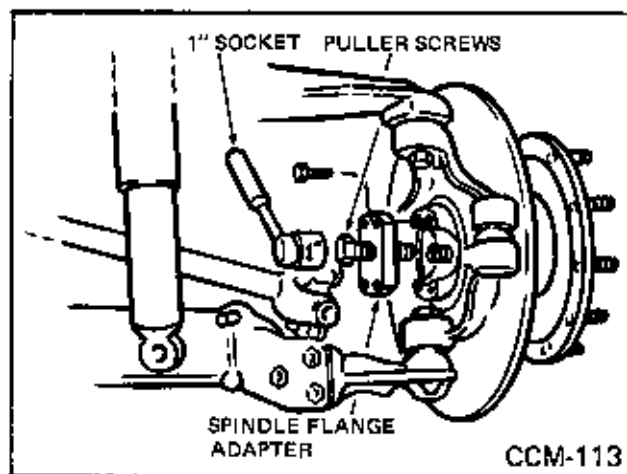

Fig. 108
11. Place spindle flange adapter on spindle yoke by using the four (4) capscrews from drive shaft. (Fig. 108)
12. Place 1" socket on spindle flange adapter nut and torque loose. (Fig. 108)